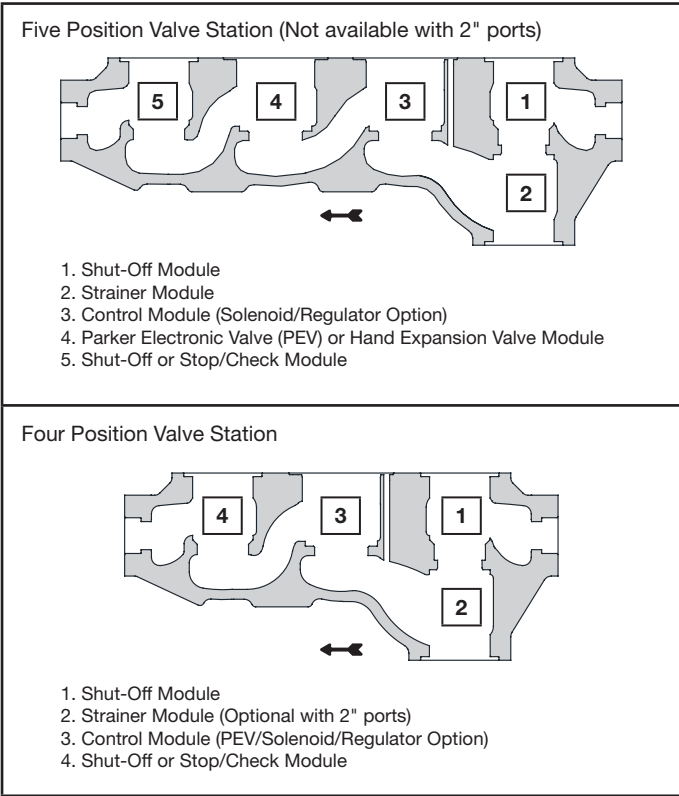

Figure 1: PVS Housings
1. The flow coefficient shown is for the control module in position three shown in Figure 1.
The PVS is an innovative design which combines several different functions into one compact valve station. This multi-module platform is available in four or five position housings, as shown in Figure 1, with the capability of interchangeable modules: